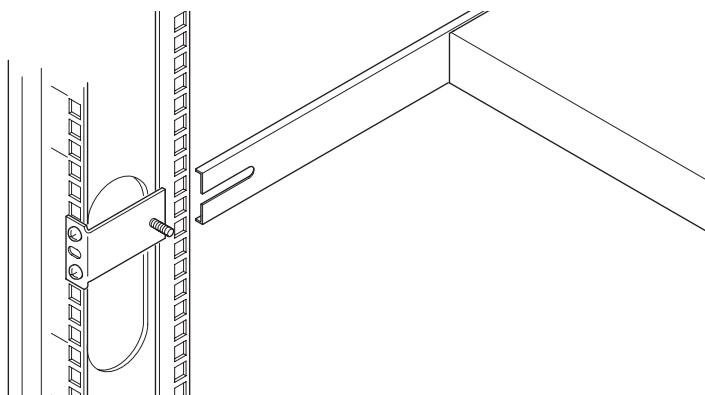

Figure 9 Installing the switch and rail assembly
4. Place the switch and rail assembly into the rack through the front, guiding the slotted-rail ends onto the threaded studs of the rear mounting brackets (Figure 9). Fit the posts on the front rail flanges in the holes between the two cage-nuts on each of the front vertical rack posts.